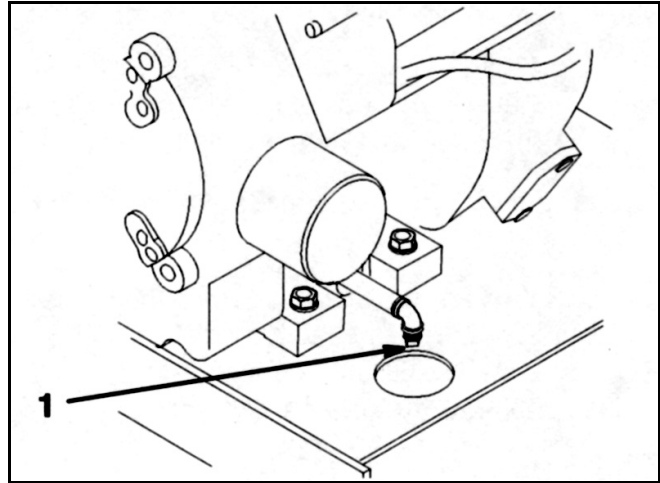

Figure 2
3. Place a pan below the oil drain. Rotate oil drain valve to allow oil to drain (Figure 2).
Slowly pour approximately 2 quarts of the specified oil into the filler tube (Figure 2). Now check the oil level. Slowly add additional oil to bring it to the "FULL" mark on the dipstick.